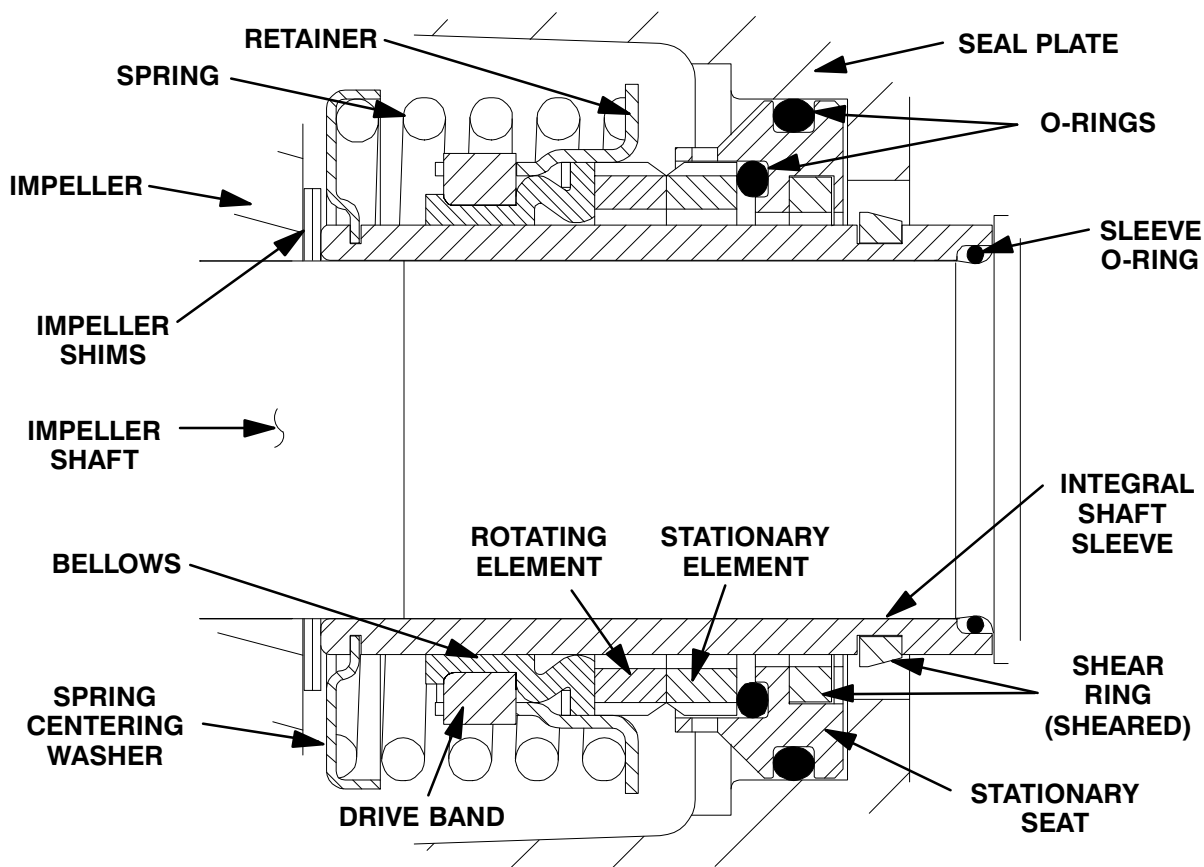

Figure 10. Cartridge Seal Assembly
To ease installation of the seal, lubricate the shaft sleeve O-ring (14) and the external stationary seat O-ring with a very **small** amount of light lubricating oil. See Figure 10 for seal part identification.